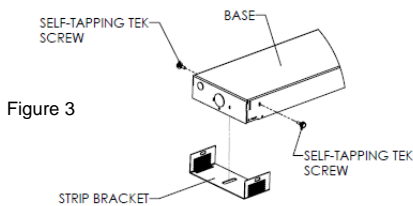

Figure 3
5. For 4ft fixtures, center the two small brackets flush with the ends of the fixture housing (with the slot in the center of the bracket closest to the end of the fixture). Bend the brackets so they fit securely over the ends of the housing. Secure brackets in place using two of the supplied tek screws (Fig 3 and 4).